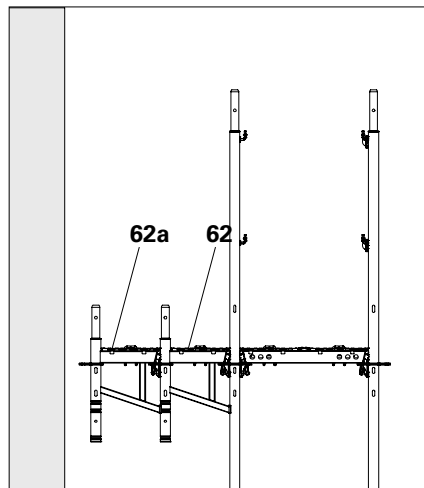

Fig. A6.02
- Additional Console Brackets ECM 33 (62a) or Supports UC (61) can only be attached to Console Brackets ECM 33 (62). (Fig. A6.02 + A6.02a)